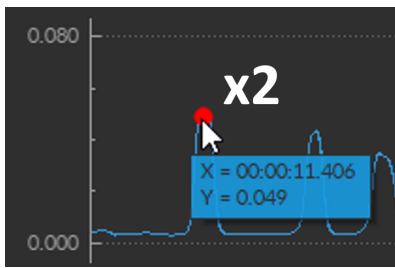

Figure 16.15: Instantaneous Value
- **Instantaneous point** - *Double clicking* (Fig. 16.15) on any element of the trace within a graph adds a red dot over that section. Mousing over the dot with the cursor displays the X- and Y-coordinates of the data point. These data points are strictly a visualization tool and their coordinates will not be saved with the rest of the data. To remove a created dot double-click on it a second time.